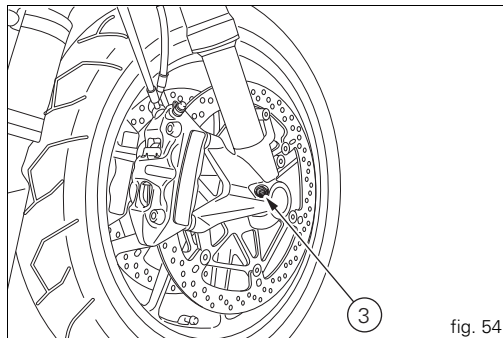

fig. 54
- 3) to adjust compression damping (fig. 54).